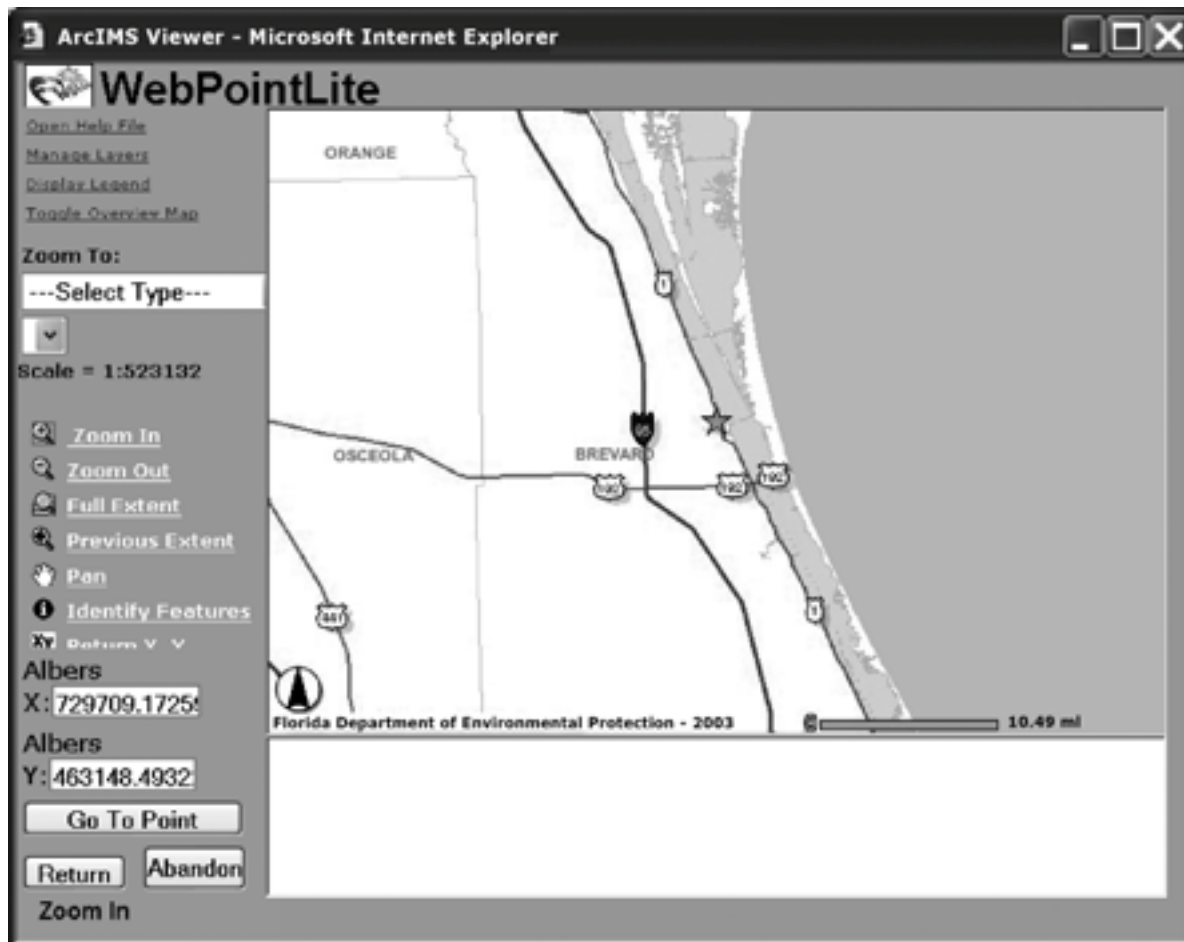

Figure 4. WebPoint Lite interface displaying the location based on the Zip Code in Figure 3.
2. When the WPL window is launched, if the latitude/longitude fields are incomplete on the Oracle Form then WPL window displays the location of the centroid point of the facility location zip code if the facility location zip code is available (See Figure 3 and Figure 4 below).